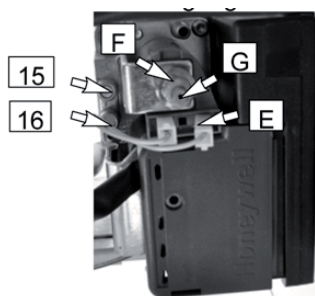

Figure 15.5
- Open the gas valve inlet pressure test point (16 in Fig. 15.5) at the valve input, connect a suitable pressure gauge and check the gas pressure of the supply network.
- Open the gas valve outlet pressure test point (15 in Fig. 15.5) and connect the gauge.
- Rotate the maximum gas pressure adjustment (F in Fig. 15.5) until you obtain the required pressure (by rotating clockwise the pressure increases).
- Turn the boiler off and disconnect one of the two connectors (E in Fig. 15.5).
- Start the boiler and rotate the minimum gas pressure adjustment (G in Fig. 15.5) until you obtain the required pressure (by rotating clockwise the pressure increases).
- Open the gas valve outlet pressure test point 15 (figure 15.5) and connect the gauge.
- Close the gas valve outlet pressure test point 15 (figure 15.5).